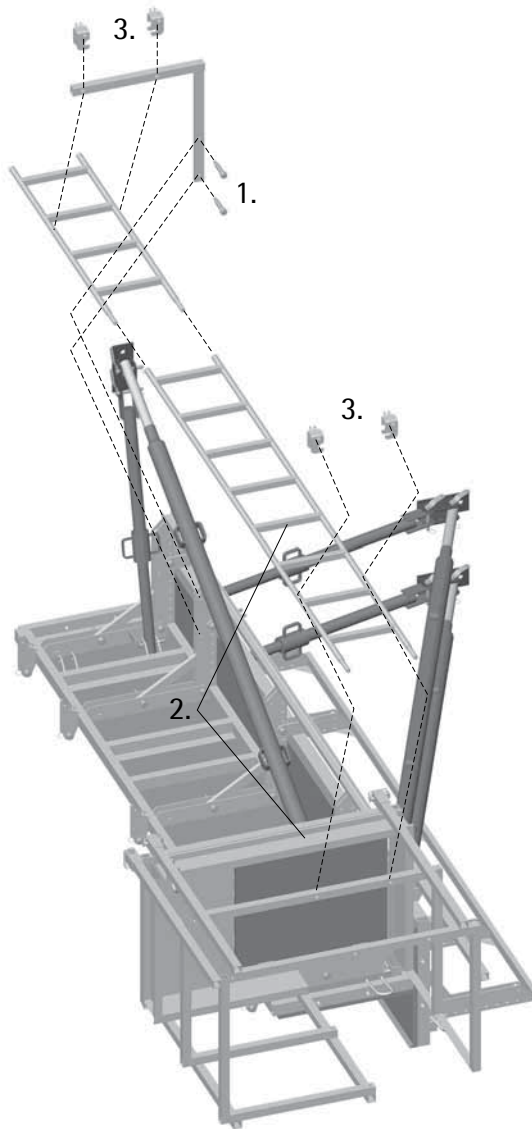

Fig. 20
3. Secure ladder to the guard rail and to the ladder fastening below each with a pair of ladder fastenings (Fig. 20).